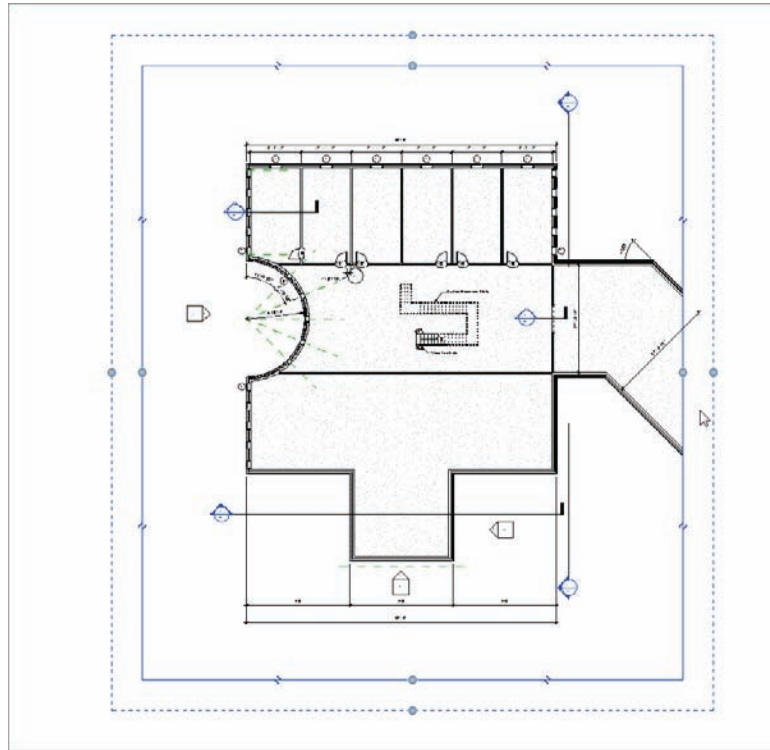

FIGURE 13.7 Selecting the plan's crop region. Notice the additional region on a dashed line type—this is the annotation crop region.
2. Select the crop region, as shown in Figure 13.7. Notice the two perimeters: one is a solid line type, and the other is a dashed line type.